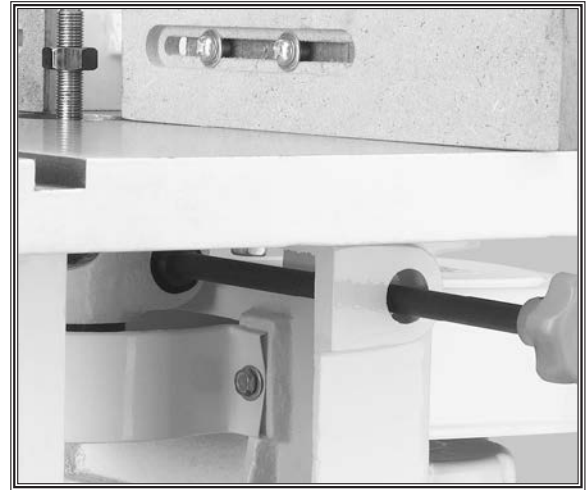

Figure 17. Spindle lock knob.
1. Loosen the spindle lock knob located on the side of the shaper as shown in **Figure 17**.